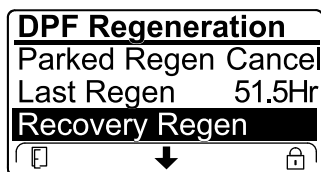

Figure 82
- If the engine computer has not requested a recovery regeneration and you scroll down to the RECOVERY REGEN option, the recovery regeneration locks and the lock icon (Figure 82) appears in the lower right corner of the InfoCenter.